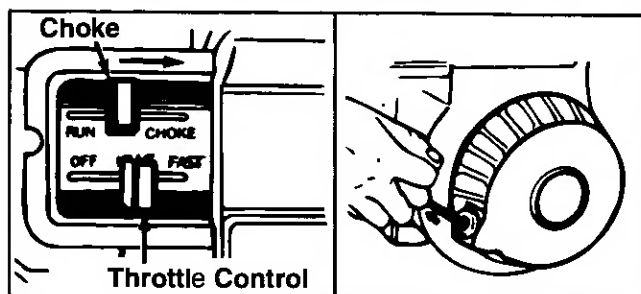

FIGURE 8.
The throttle control lever is located on the engine. It controls the engine speed and stops the engine. See figure 8.
2. Place the throttle control lever in FAST position. See figure 8.